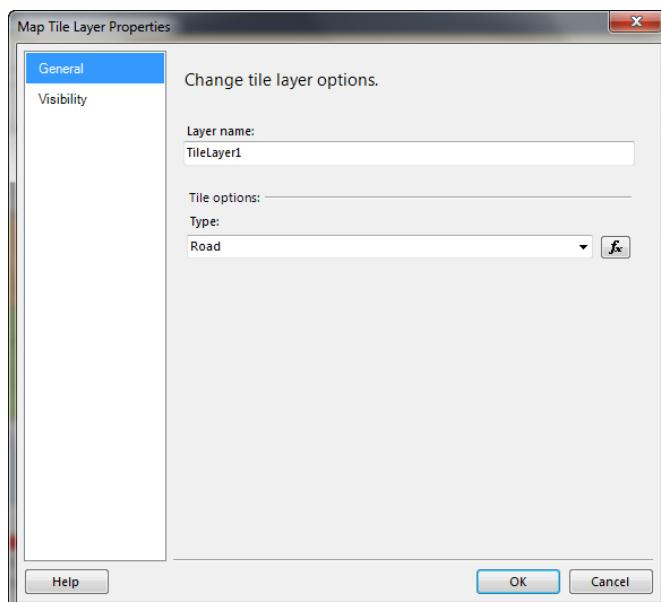

Figure 6-33
2. In the Tile Properties, you can select which of the Bing Map types you want to tile your map with. For this example, use the Road tile type and then click OK to close the dialog (see Figure 6-33).